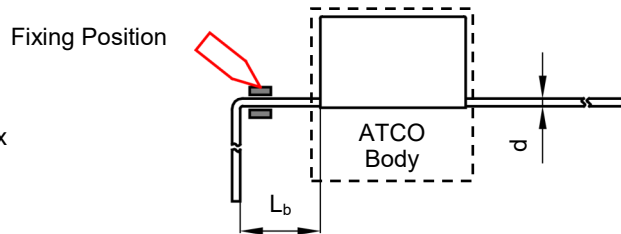

FIGURE HS-2
2. When bending leads, please use pincher or similar tools to fix the product as shown in Fig.HS-2, to avoid damaging the product.